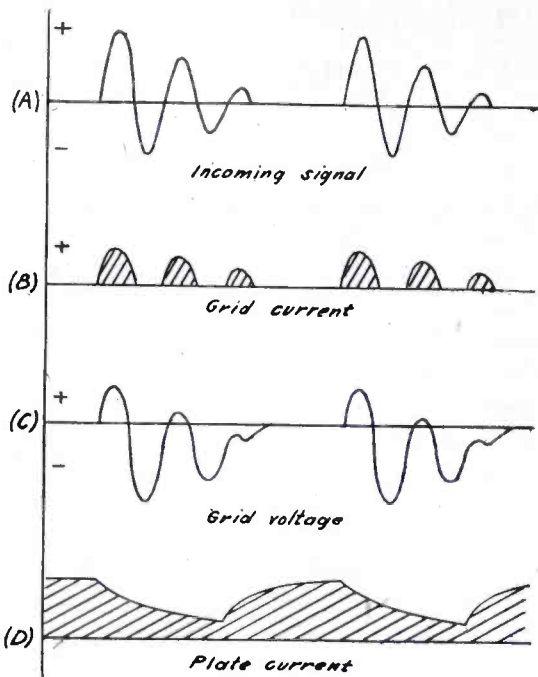
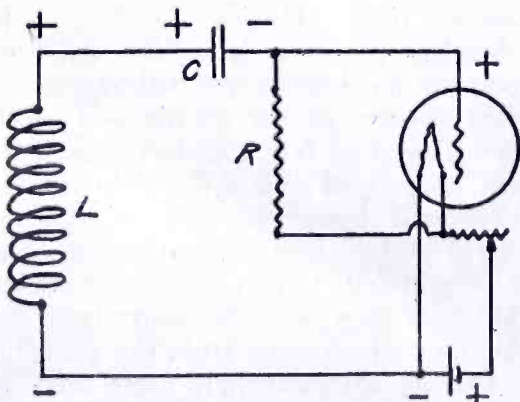

Fig. 5. Detection in Tube Circuit Using Grid Condenser and Grid Leak
Fig. 6
For the purpose of discussion let us assume that the incoming signal is identical with the damped wave signal shown in Fig. 3 (A). Fig. 5 (A) is a graph of the voltage across *L* as a function of time. During the half cycle when the top of *L* is positive with respect to the bottom the voltage across various parts of the circuit will be as shown by Fig. 6. The left side of *C* will be charged + and the right side—. This will leave the grid with a + charge with respect to the filament. As a + grid will attract electrons some of the + charge will be neutralized by electrons which come from the filament.
Grid current will flow during each half cycle as shown by Fig. 5 (B). It will be seen that the grid is — with respect to the filament. However, the —
During the next positive half cycle electrons will again pass from filament to grid. The result of the variation of grid voltage from + to — is an accumulation of electrons on the grid and on the right side of  $C$ , that is, the accumulation of a negative charge. This accumulation will continue until the grid assumes such a — charge that no positive half cycle can make it + with respect to the filament. Fig. 5 (C) is a graph showing how this — charge is accumulated by the grid. Fig. 5 (D) shows the current through the phones as a function of time. The receiver diaphragms will vibrate to correspond.